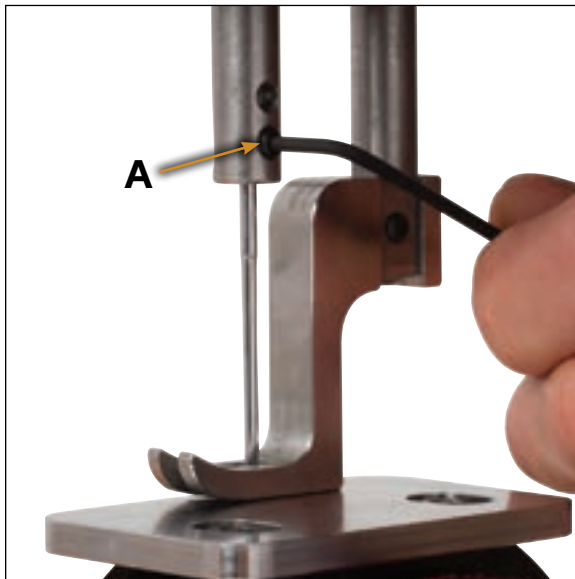

Figure 31
- 1) Loosen the Needle Screw (**A**) with the Allen Wrench provided and remove the old needle. (**Figure 31**)